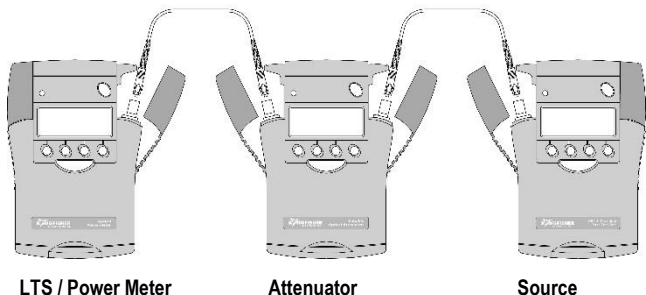

Figure 5. Test set-up for the Power Meter section Accuracy Test
1. Connect the equipment as shown in Figure 5: